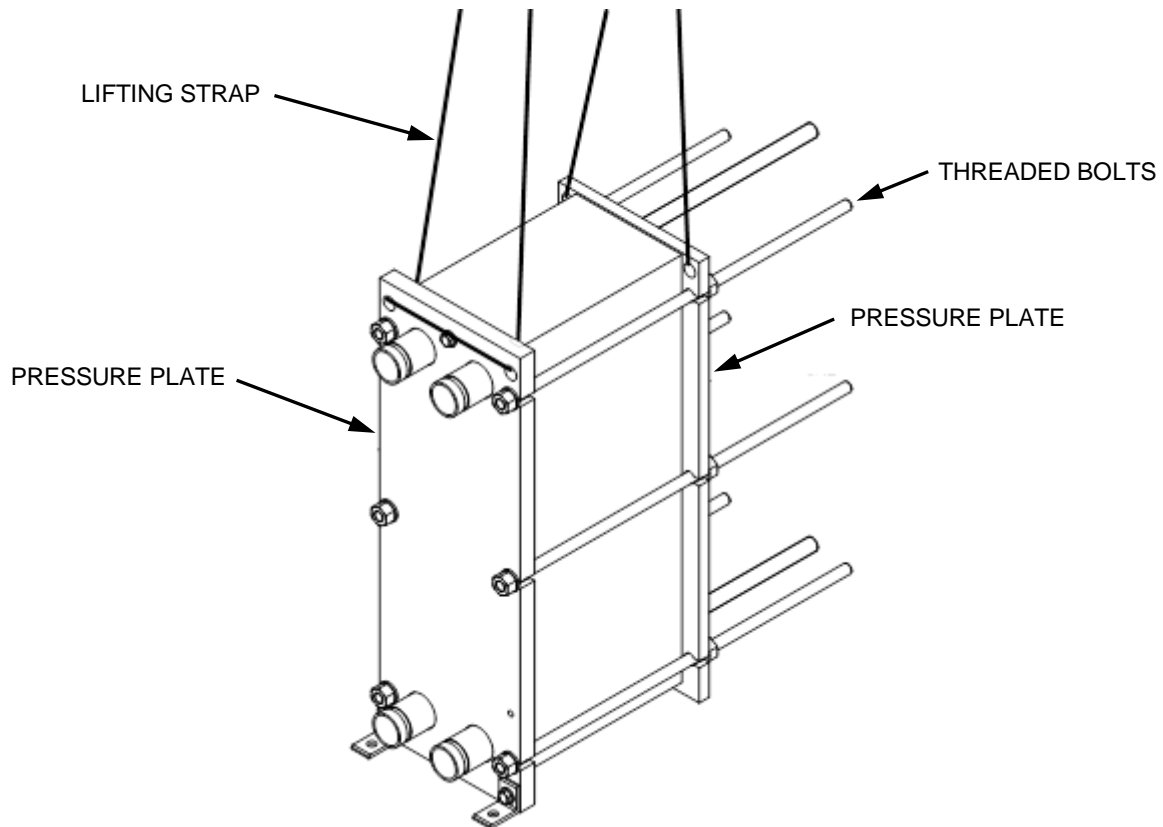

Figure 8-20. Heat Exchanger Lifting Strap
10. Insert a lifting strap through the four (4) holes in the frame plate and pressure plate, as shown in Figure 8-20, to safely lift the heat exchanger off its mount. You may also wrap the lifting strap around the threaded bolts instead of through the holes in the Pressure Plate.
To replace the heat exchanger with a new assembly, simply reverse the previous steps. Support the replacement heat exchanger using a suitable lifting strap (shown in Figure 8-20, above) and lower into position on the heat exchanger mount. Ensure it is properly aligned with the Piping Assembly and heat exchanger mount. Ensure that the bolts on all four Victaulic couplings or flange connectors are securely tightened. For model SPDW61 or SPDW113, re-install the rear support bracket and verify that adjustable legs are properly positioned.